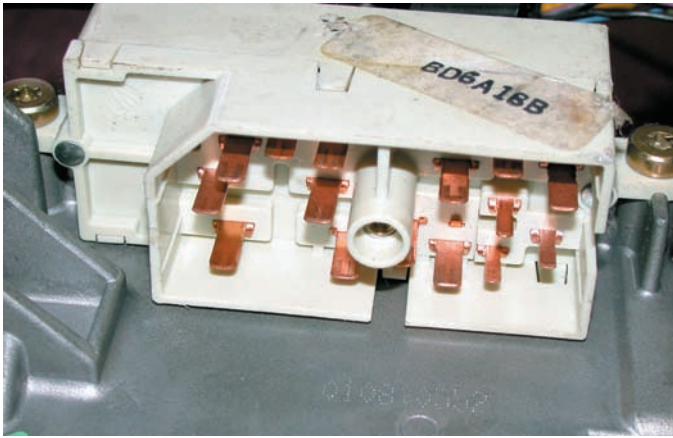

FIGURE 17-17 A typical ignition switch showing all of the electrical terminals after the connector has been removed.
5. **Ignition switch.** The ignition switch and safety control switches control the starter motor operation. **● SEE FIGURES 17-17 AND 17-18.**